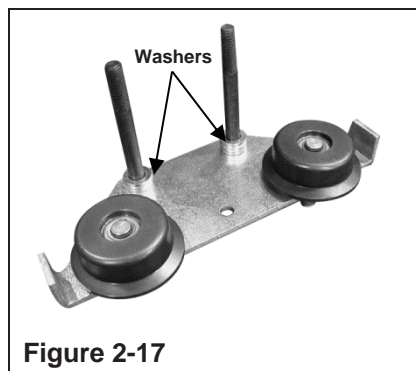

Figure 2-17
- Step 2. Place required number of flat washers onto the bolts as shown below (See Figure 2-17).